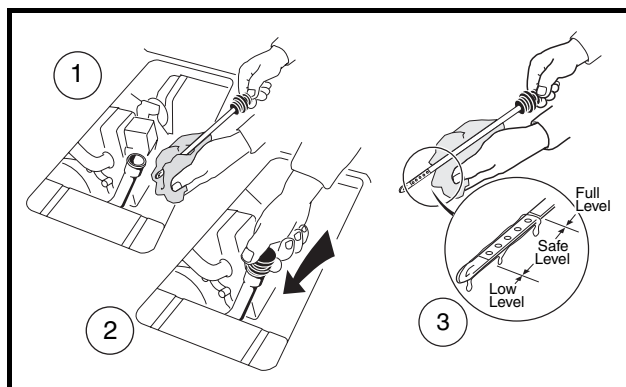

Figure 13-12 Check Engine Oil Level
9. Check engine oil level (**Figure 13-12, Page 13-10**).
- 9.1. With vehicle on level surface, remove dip stick and clean with cloth (**Figure 13-12, Page 13-10**).